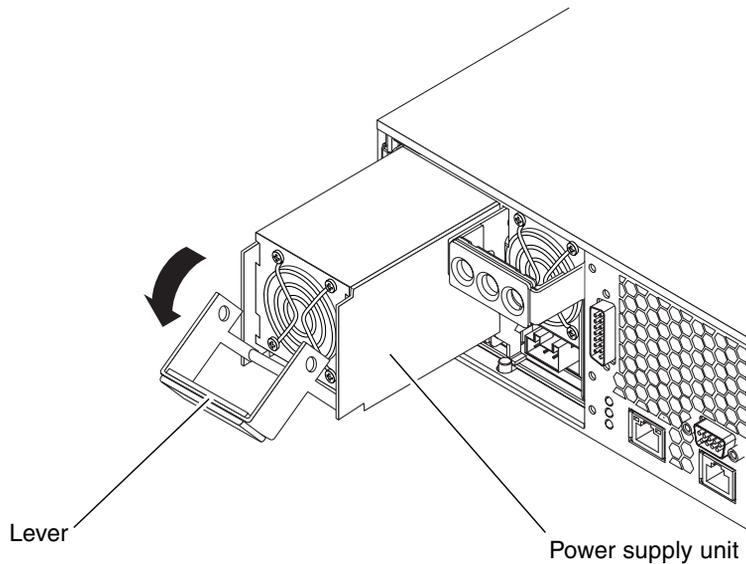

FIGURE 3-8 Removing a Power Supply Unit
3. Pull the lever on the back of the power supply unit down (FIGURE 3-8).
4. Slide the power supply unit out of the server chassis by pulling on the lever (FIGURE 3-8).